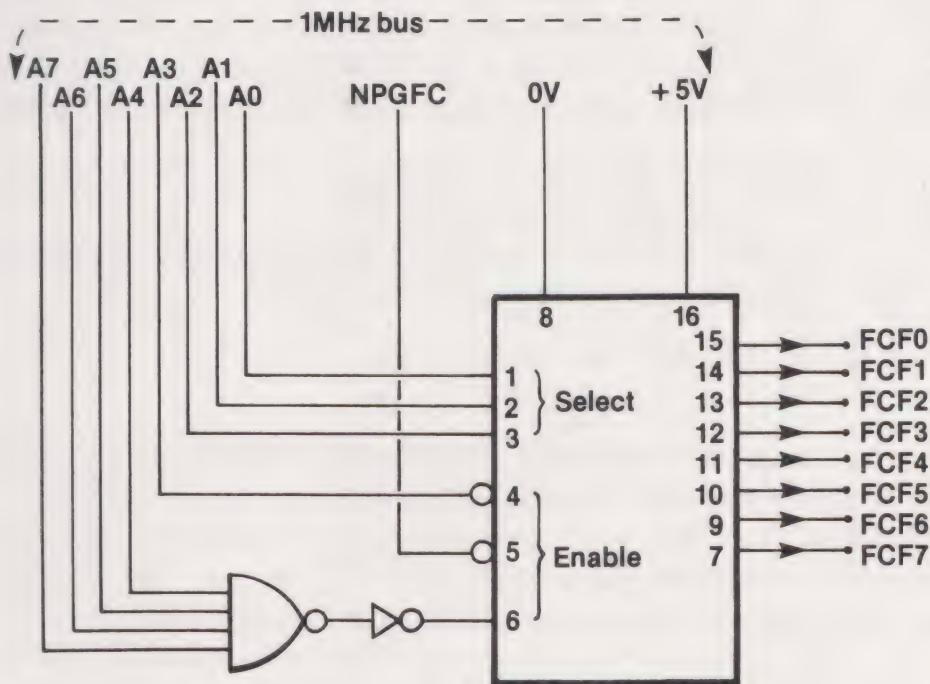
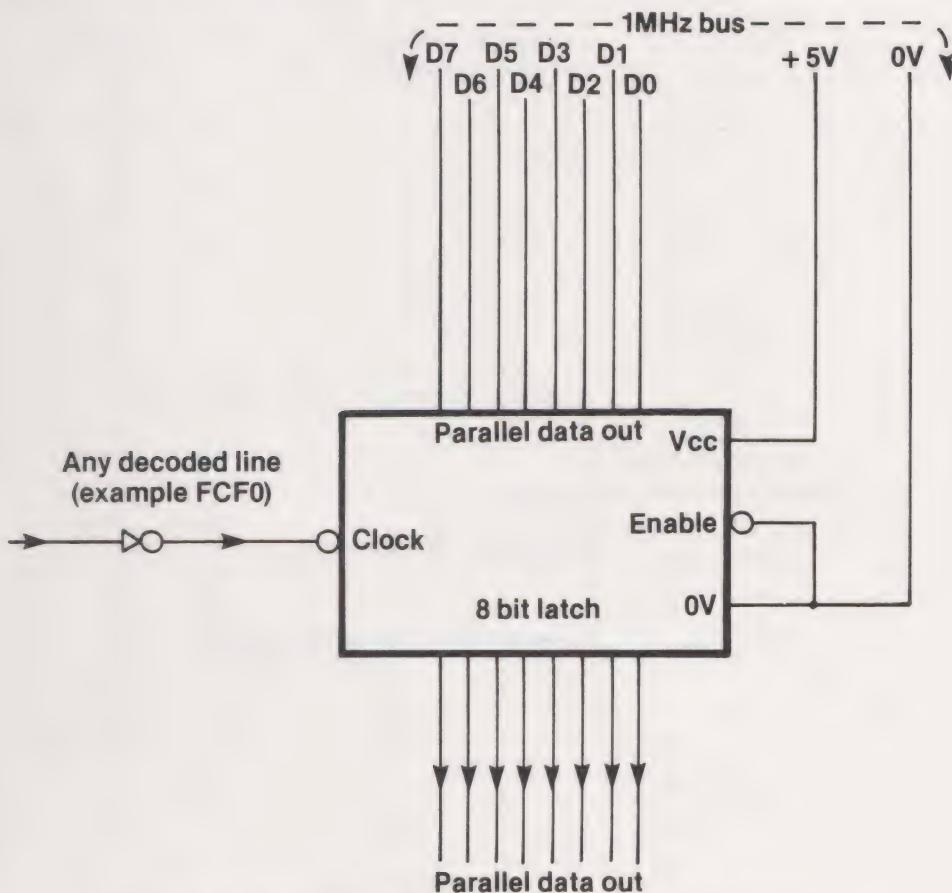

Fig. 1.6. Selecting any one of eight devices.
Fig. 1.7. An 8-bit latch as an example of a device.
If there are several different devices, each one must have an associated code acting as an *identifier*. This code will be the device 'address'. The 1 MHz bus is equipped with address wires A0 to A7 which can be tapped for supplying the *two least significant* hex digits of the address. The *two most significant* hex digits have already been decided for us since the 1 MHz bus is restricted to page FC for device control. As explained previously, the line marked NPGFC is available on the bus to enforce this page. There are 256 different address codes possible on one page according to the binary pattern set up on A0 to A7. That is to say, the address range of our page FC extends in theory from &FC00 to &FCFF. However, we should restrict the coding of our special devices to the small band set aside for User Applications, &FCC0 to &FCFE. It is comforting to know that decoding A0 to A7 is easily achieved by special decoder chips available in the 74 series. These decoders are general purpose but skilfully designed for slipping neatly into a variety of systems. Figure 1.6 shows a possible hook up for driving any one of eight devices.
an art which is essential for those who intend to design their own add-on boards, so the following step-by-step explanation of Fig. 1.6 is worth studying carefully. The explanation is limited to one of the outputs (pin 15) labelled as address FCF0:
Although Fig. 1.6 has been built around the addresses &FCF0 to &FCF7, we could have chosen any other set of eight *contiguous* addresses in Fred's user application band (&FCC0 to &FCFE). For example, suppose for some reason we wished to position the decoder in the eight addresses &FCE0 to &FCE7. The third hex digit would now be E (binary 1110) instead of F (binary 1111). The only change, therefore, would be a logic 0 on address line A4 instead of a logic 1. Thus the circuit remains the same except for one extra inverter in between A4 and the NAND gate.
Note from Fig. 1.6 that the data bus is *not involved*. Switching on the selected device is simply a case of mentioning the address in a machine code instruction; any data transfers by READ or WRITE action are incidental to device action. We could say that the device is 'address' rather than 'data' driven.
decoding is concerned, we could enable the device from any one of the outputs in Fig. 1.6 or, in fact, up to eight separate ones if the necessity arises. Figure 1.7 shows how the device-select action is combined with the data bus.
An 8-bit latch is a kind of *buffer* between the data source (in this case the data bus) and the device which requires it. The device only accepts the data when a terminal called the clock changes state. Because the clock input in Fig. 1.7 has a bubble, clocking the data takes place when the change is from logic 1 to logic 0. In the quiescent state (device not yet selected) the parallel data out is that which remained from the last time the latch was clocked: it is ‘historic’ data. However, whenever &FCF0 is addressed (goes from logic 0 to logic 1), the inverter in the line causes the clock to go from logic 1 to logic 0. The information on the data bus then passes through to the parallel output lines. To summarise: when &FCF0 is addressed, the device immediately receives new information from the data bus, *overwriting the previous information*. As a matter of interest, the machine code line to place the contents of the accumulator into the output lines is:
Although the BBC machine is not equipped with a digital to analogue converter, it is easy to hook one on the 1 MHz bus. There are several types available so the diagram contains only sufficient detail for the understanding of the system. The diagram shows the data bus directly connected to the D/A converter and enabled by one of the decoded addresses. This, of course, could be one of the lines from a 74LS138 (as shown earlier in Fig. 1.6). An instruction to produce analogue output could be:
- ? 1.15 With reference to Fig. 1.7, assume the data bus is 4F hex and the latch output is also 4F. Supposing the data bus now changes to 5F, what is the output from the latch prior to the arrival of the clock pulse?